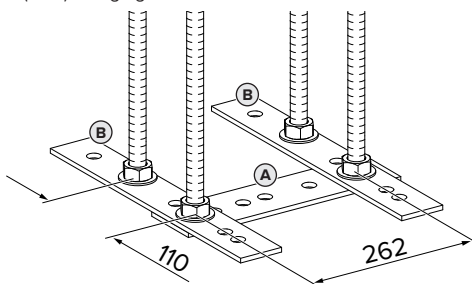
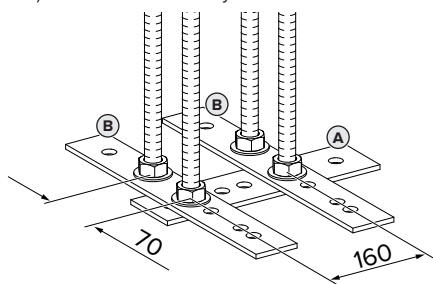

Fig. 1: Dimensions [mm]
Fig. 2: Dimensions [mm]
- Insert the threaded rods into the flat steel bars, taking into account the dimensions in the Fig. 1 and Fig. 2. Make sure that the flat steel bar (A) and the flat steel bars (B) are positioned at right angles (90°).